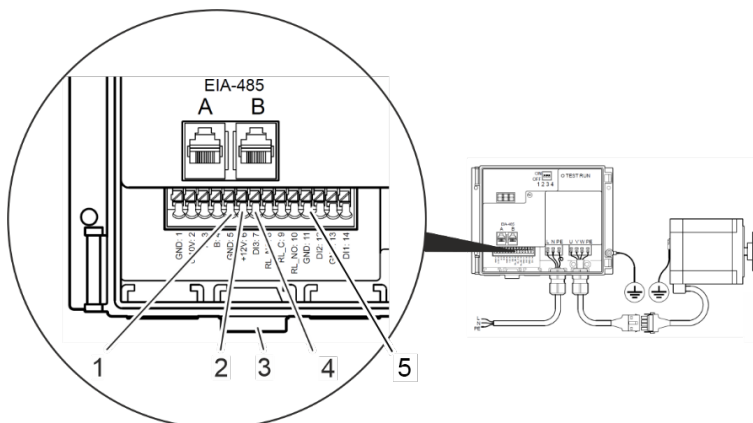
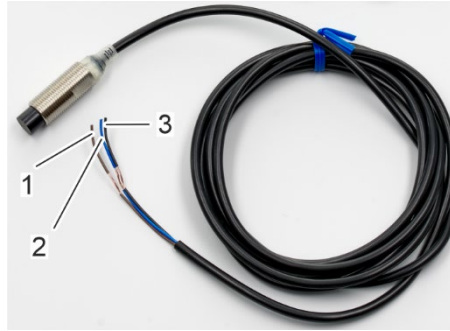

Fig. 102: Terminals clock sensor
Fig. 103: Clock sensor cable
21. Insert the wires of the clock sensor (Fig. 103/1-3) through the cable entry (Fig. 102/3) into the rotor cleaner drive.
22. Connect the blue wire (Fig. 103/2) to terminal 5 (Fig. 102/1, GND).
Connect the brown wire (Fig. 103/1) to terminal 6 (Fig. 102/2, +12V).
Connect the black wire (Fig. 103/3) to terminal 7 (Fig. 102/4, DI3).
Bridge sockets 11 and 12 (Figure 102/5, GND and DI2) at terminal 7.